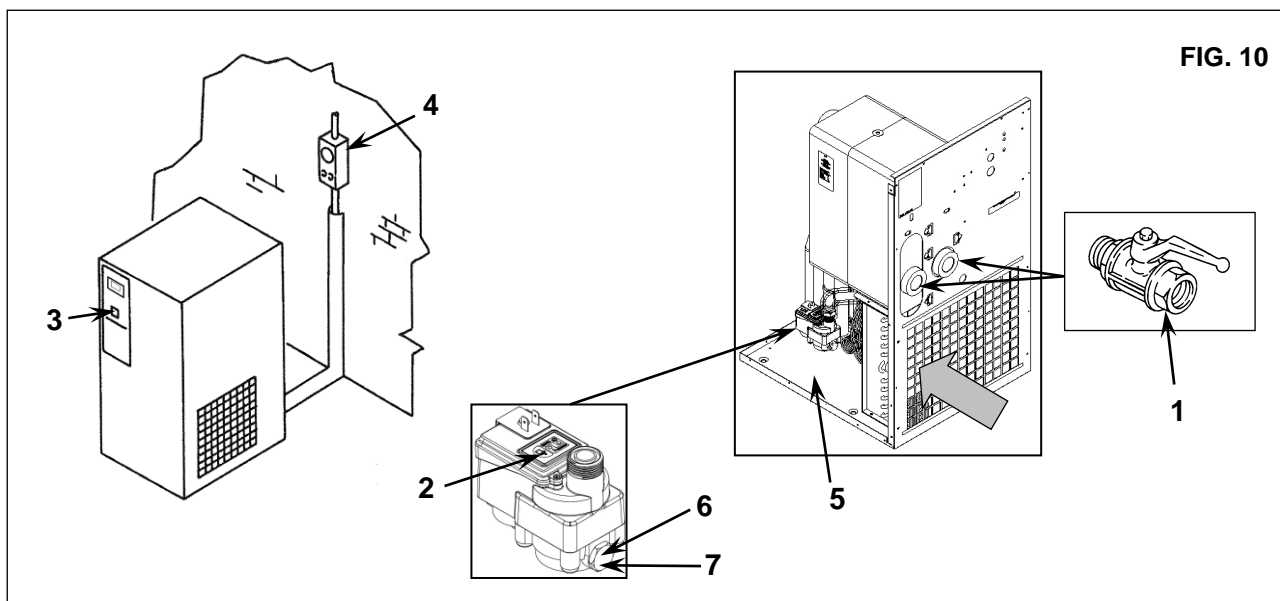

FIG. 10
15.2 CLEANING OF THE AUTOMATIC CONDENSATE DISCHARGER FILTER (Fig. 10)
- Close the valve Ref. 1 Fig. 10
- Release the pressure in the dryer by pressing the condensate drain "TEST" pushbutton located on the steam trap Ref. 2 Fig. 10.
- Switching the rocker switch in "0" position Ref. 3 Fig. 10
- Turn off the supply (see disconnect switch Ref. 4 Fig. 10)
15.3 CLEANING THE CONDENSER (Fig. 10)
- Remove the panels Ref. 5 Fig. 10
- Clean the condenser fins Ref. 1 with compressed air (Fig. 10) **DO NOT USE WATER OR SOLVENTS**
- Close the panels Ref. 5 Fig. 10